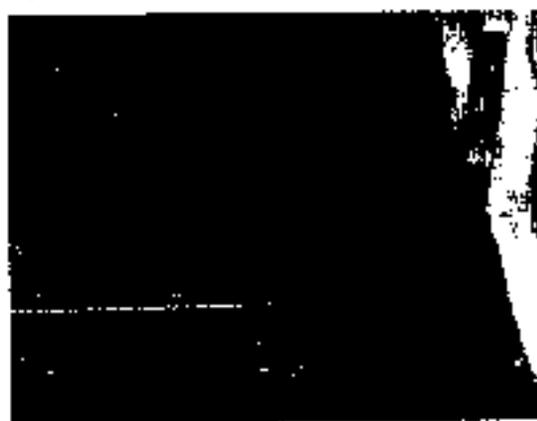

Fig. 3-63 Platform - stairs locking pin removed
- 3 Remove the locking pins from the stairs (fig. 3-63).